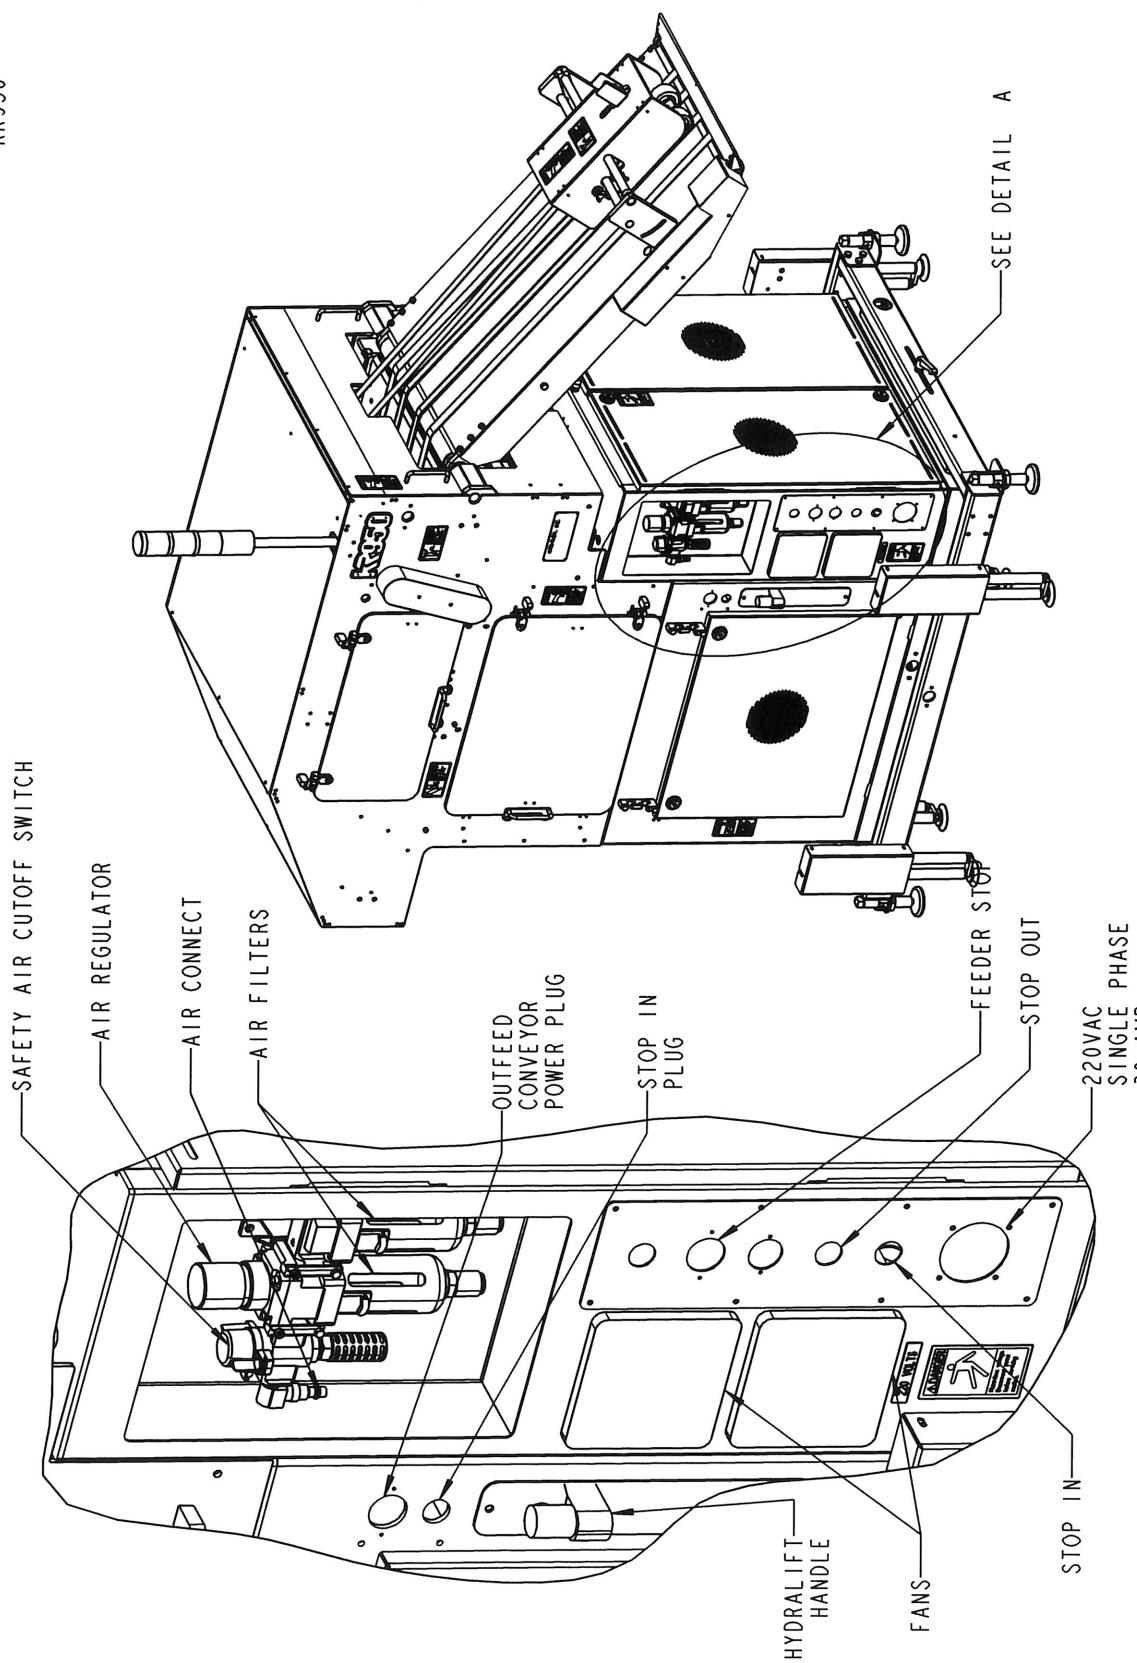

FIGURE 6.0
3.3 ELECTRICAL CONNECTIONS (see Figure 6.0)